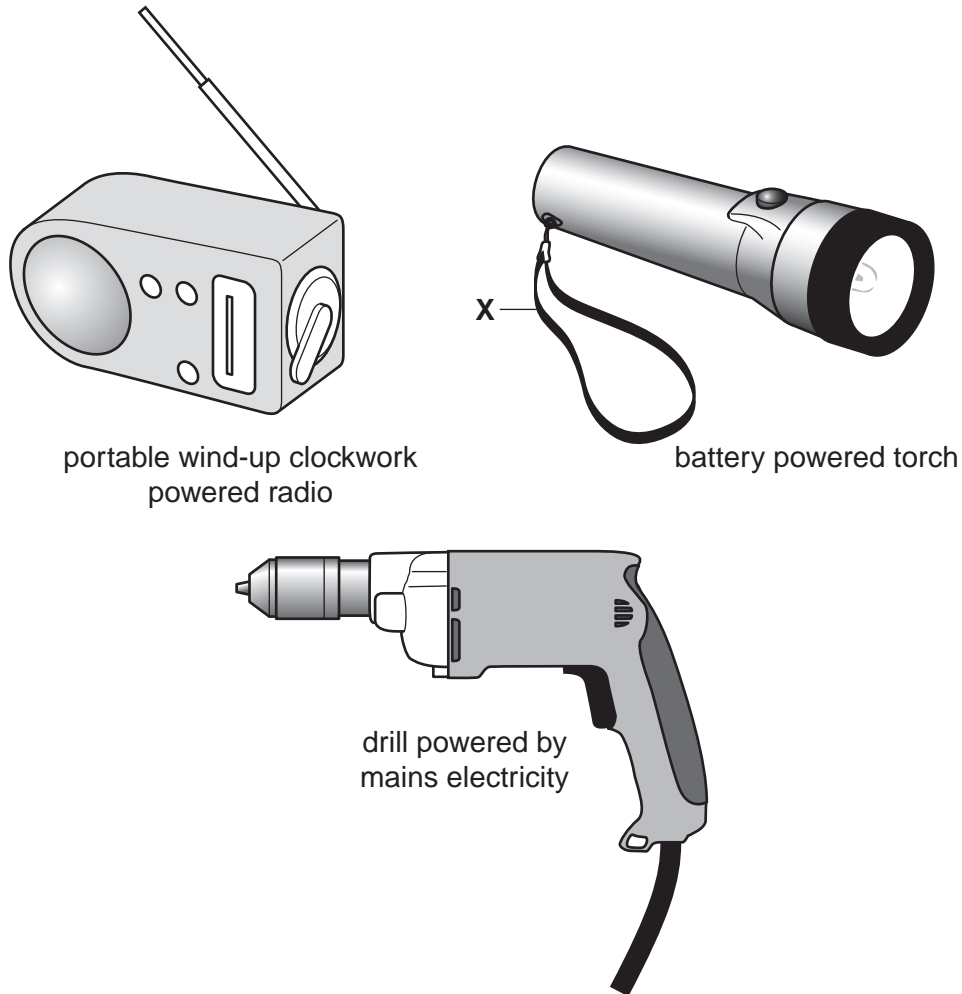

Fig. 5
- 5 Each of the three products shown in Fig. 5 uses a different power source.
- (d) Select **one** of the power sources used by the products shown in Fig. 5 and discuss the merits of using that power source compared to the other two.